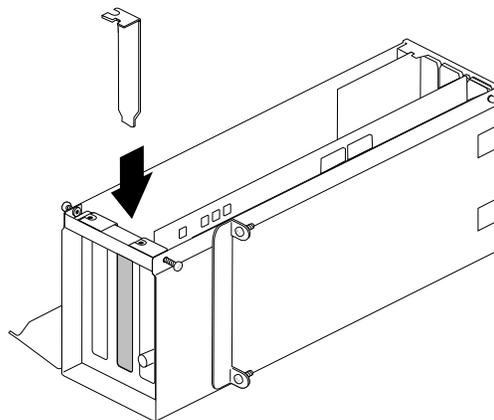

Figure 4-32 Inserting the I/O Blank Panel
5. Install an I/O blank panel in the I/O door in place of the PCI board, as shown in Figure 4-32.